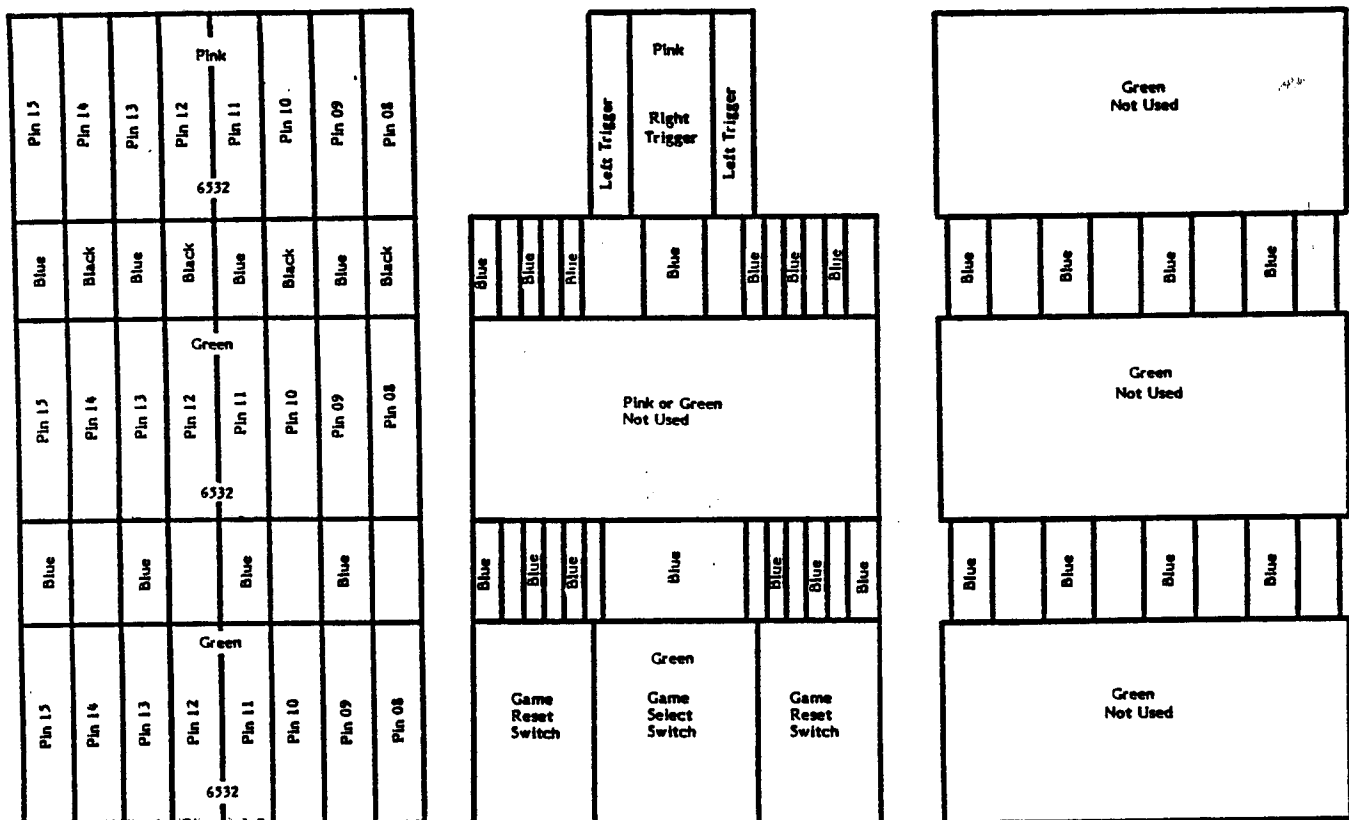

Figure 3-9. Gray Bars Screen
- Format: Move the Color/Black & White switch to the Black and White position. There should be eight horizontal gray bars displayed, going from black at the top to white at the bottom in even gradations (See Figure 3-9). The screen should be steady and unchanging. These lines may have minor glitches on their edges. A thin white line always appears just over the top (black) bar. No color should appear anywhere on the screen. The areas above the top (black) bar and below the bottom (white) bar are of no importance to the test. This test should be left on for at least ten seconds to ensure that there is no "flashing" of any color or shifting of the gray bars.